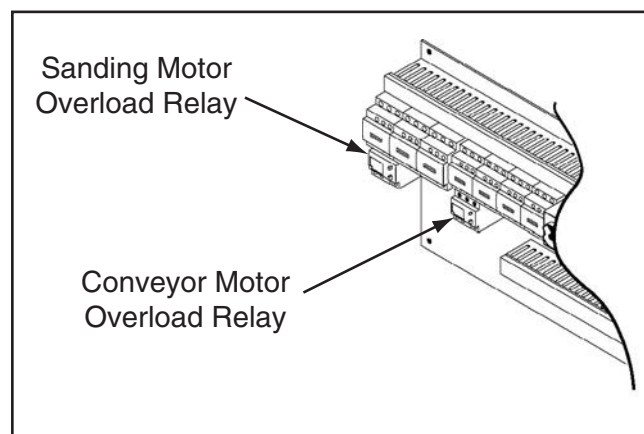

Figure 5. Location of 440V conversion components.
4. Swap out sanding and conveyor motor thermal overload relays with those in 440V conversion kit listed below and at locations shown in **Figure 5**.